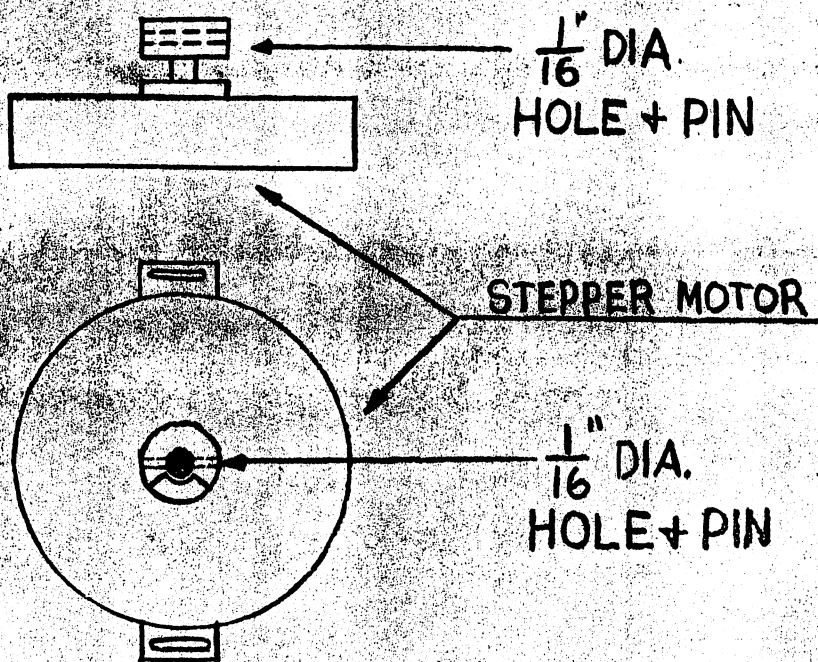

FIG 4
- d). Drill a 1/16 inch diameter hole thru the cam, the stepper motor shaft, and out the other side of the cam. (see figure 4). Use lubricant to prevent the aluminium cam from siezing on the drill (ordinary bar soap works for me).